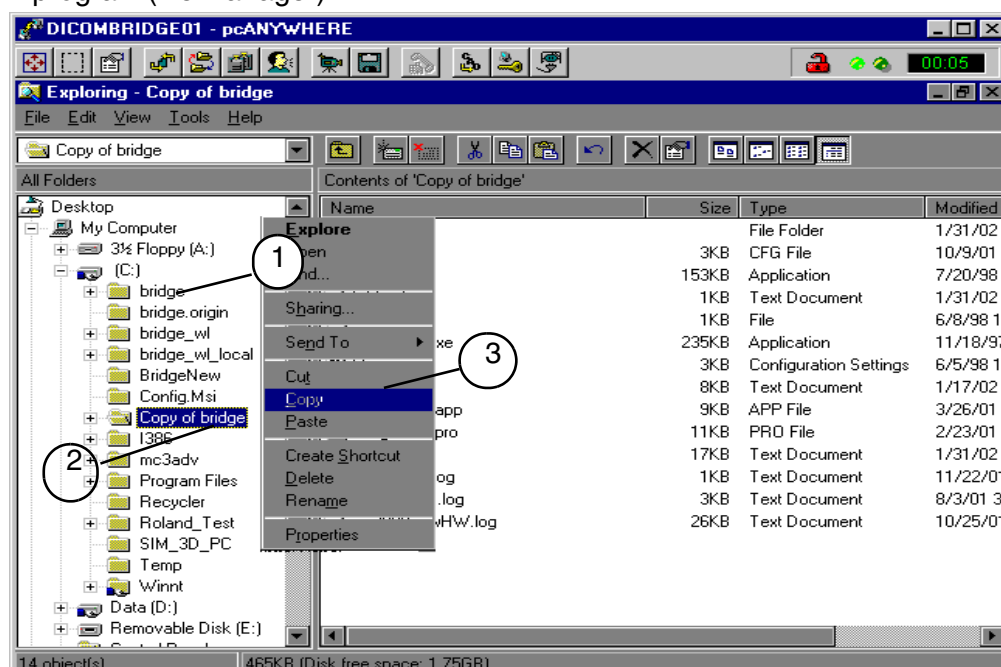

Fig. 7
- Create a copy of the "bridge" folder (1 / Fig. 7) on drive C. For this purpose, mark the "bridge" folder in the left segment of the Explorer window and press the right mouse button. Select the "Copy" line in the menu (3 / Fig. 7). Select drive C with the mouse and press the right mouse button again. Select the "Paste" line in the menu (3 / Fig. 7). The "Copy of bridge" folder will then be created (2 / Fig. 7).